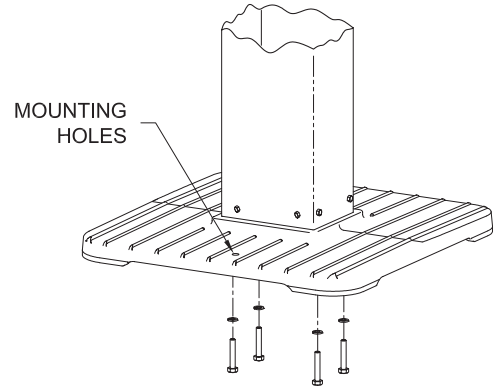

Figure 2
2. Fasten the bottom of the post to the cast base using 1/4 x 1/2 Lock Washers, and 1/4-20 x 1 1/2 Hex Head bolts. See Figure 2. Anchor the cast iron patio base to your patio using the two holes provided in the base. (Hardware not included)